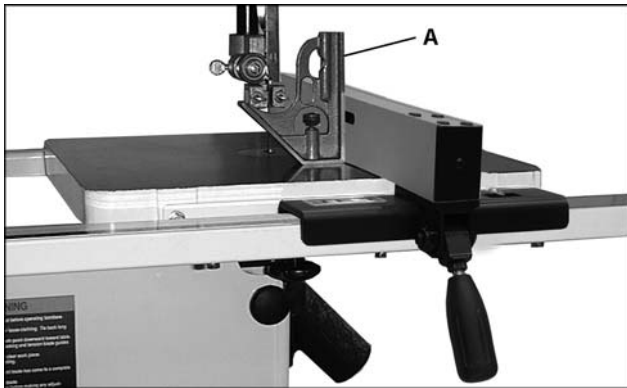

Fig. 6
8. The front rail, rear rail and sliding pad can be raised or lowered to allow for an equal gap. At the same time make sure the fence is perpendicular to the table top (A, Fig. 6).